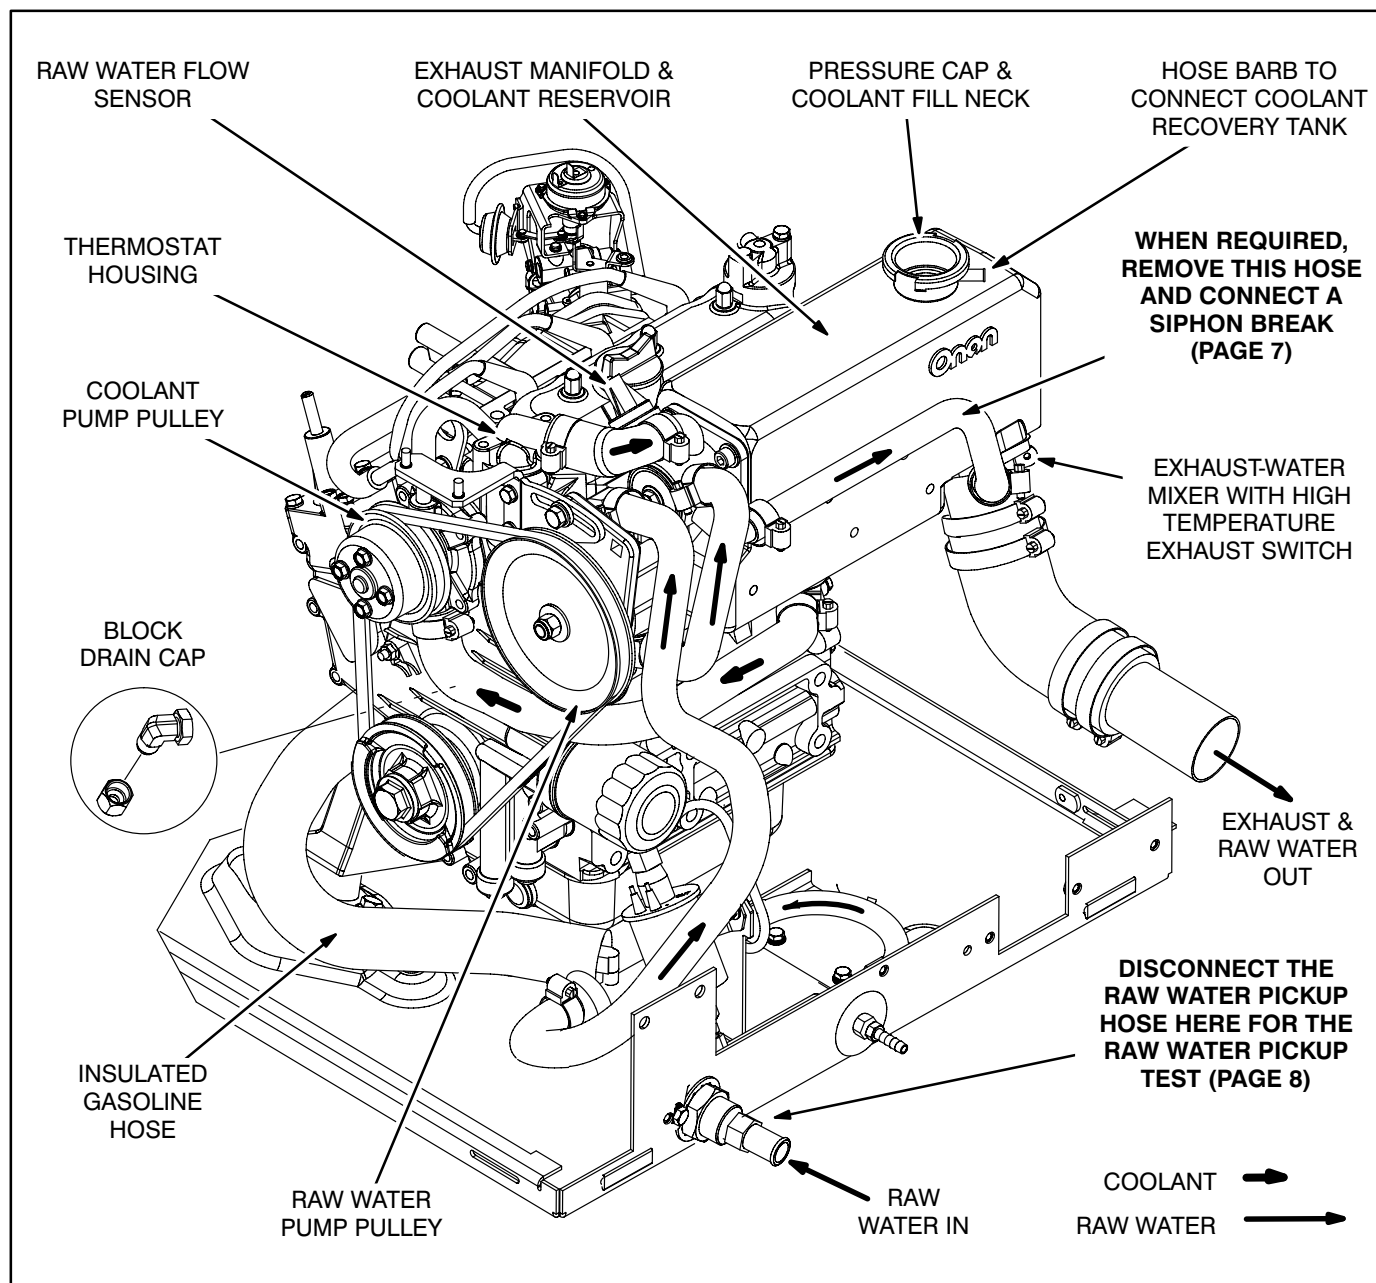

FIGURE 1. ENGINE COOLING SYSTEM
Refer to Figure 1. The engine is cooled by a pressurized, closed-loop liquid cooling system. Coolant is pumped through passages in the engine block, head and exhaust manifold. The exhaust manifold also serves as the engine coolant reservoir.
Conduct the RAW WATER PICKUP TEST to determine whether a siphon break is required to prevent the engine from being flooded with floatation water. Siphon Break Kit 541-0876 is available if a siphon break is required. Carefully follow the instructions in the kit. The hoses in the kit replace the hose between the engine heat exchanger and exhaust-water mixer (Figure 1). The end panel of the genset has knockouts for the hoses to pass through (Page 23). The kit has the hole grommets. Figures 4 and 5 illustrate typical siphon break installations.
The genset is shipped with a coolant recovery tank kit. Follow the instructions in the kit. *The tank must be accessible for daily inspection and refilling.* Clamp the recovery hose to the hose barb on the coolant fill neck (Figure 1). Route the tank recovery and overflow hoses through the holes in the end of the enclosure (Page 23). Make sure the overflow hose terminates in the drip pan where it will not splash coolant on electrical components. Fill the tank in accordance with the Operator's Manual.
1. Close the sea cock and disconnect the raw water pickup hose from the genset (Figure 1). Alternatively, connect a clear plastic hose to the strainer or sea cock.